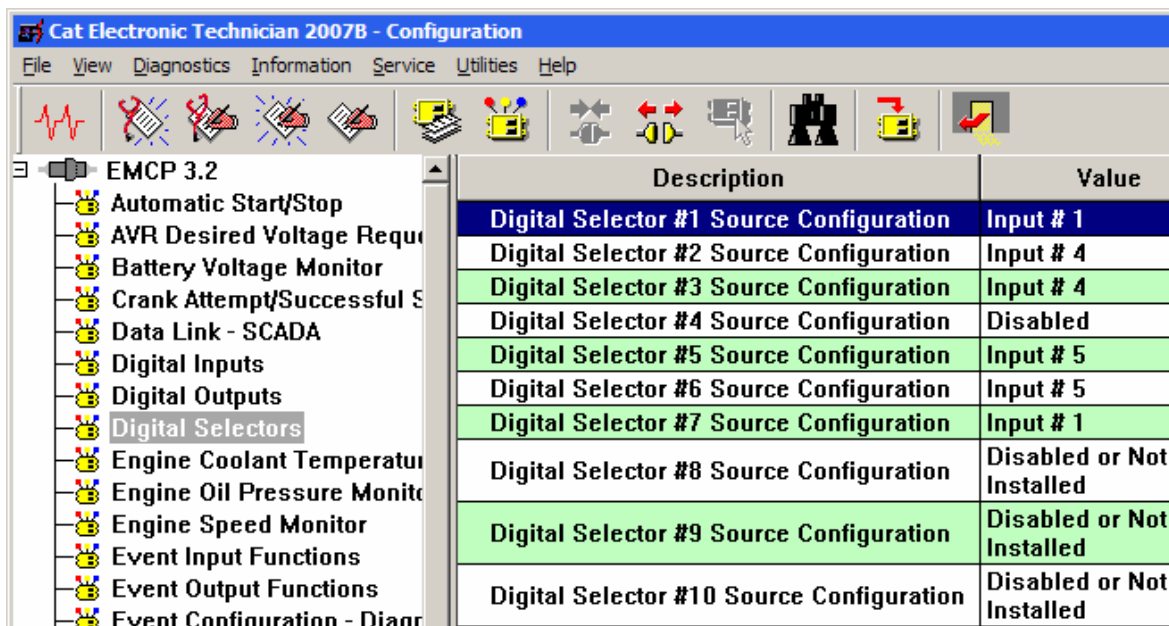

FIGURE 24 SELECTING DIGITAL SELECTOR
The EMCP 3.2 has seven (7) Digital Selectors. As the screenshot shows FIGURE 24, more are listed, but are given as Disabled or Not Installed. This means they don't apply to the EMCP 3.2.